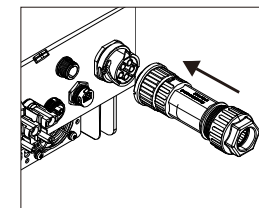

Figure 5.24 AC connector to inverter
C) Connect AC connector with inverter (see figure 5.24), until hearing a slight clicking sound indicates connection succeed.